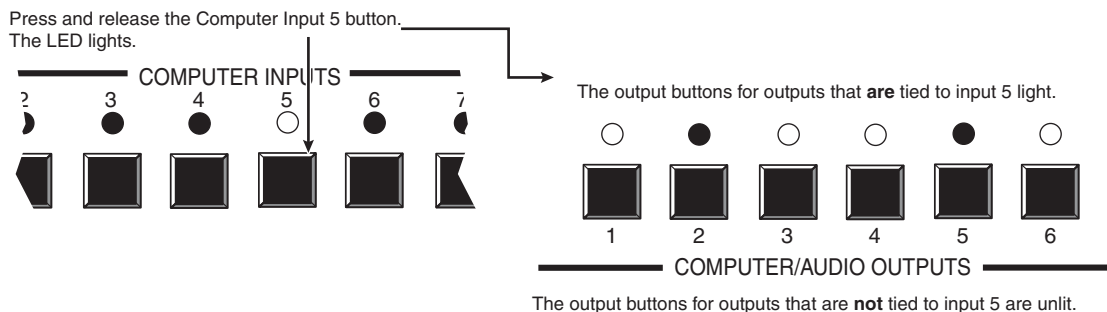

Figure 3-29 — Select an input
4. Press and release the input 5 button (figure 3-29).